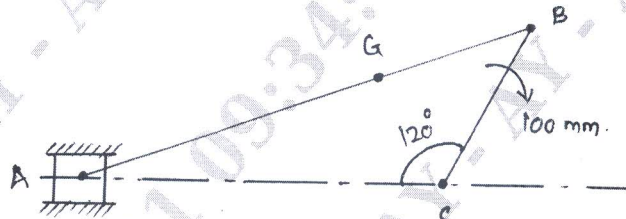

Fig.Q3
3. An engine mechanism is shown in Fig.Q3. The crank $CB = 100$ mm and the connecting rod $BA = 300$ mm. With centre of gravity G , 100 mm from B . In the position shown, the crank shaft has a speed of 75 rad/s and an angular arc elevation of 1200 rad/s². Find: